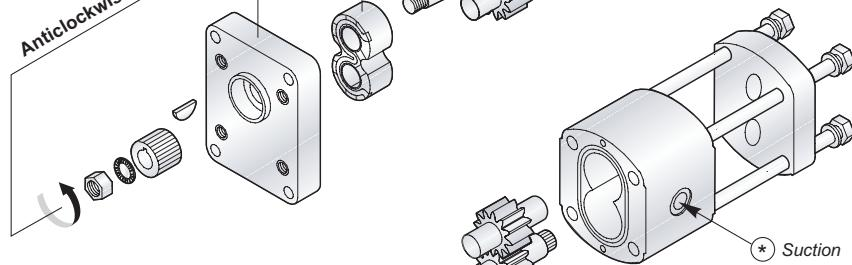

Fig. 2
- Pull off gears C - D and reassemble according to figure 2.